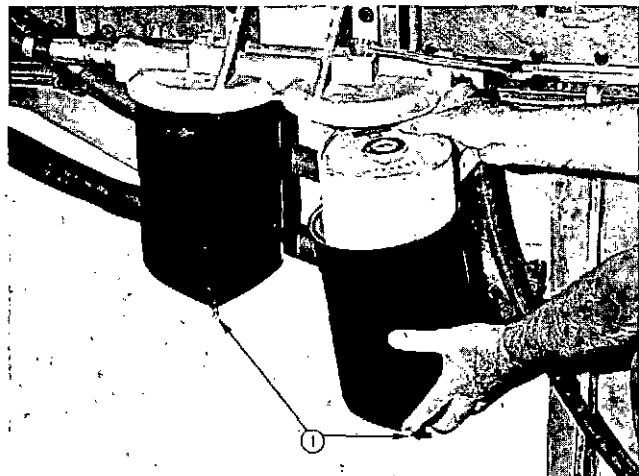

Fig. 5-18. Replaceable element fuel filter
1. Open drain cock(s) in bottom of filter case(s) and drain contents. (1, Fig. 5-18.)
2. Loosen nut(s) at top of fuel filter(s). Take out dirty elements, clean filter case(s) and install new element(s). Fig. 5-18.